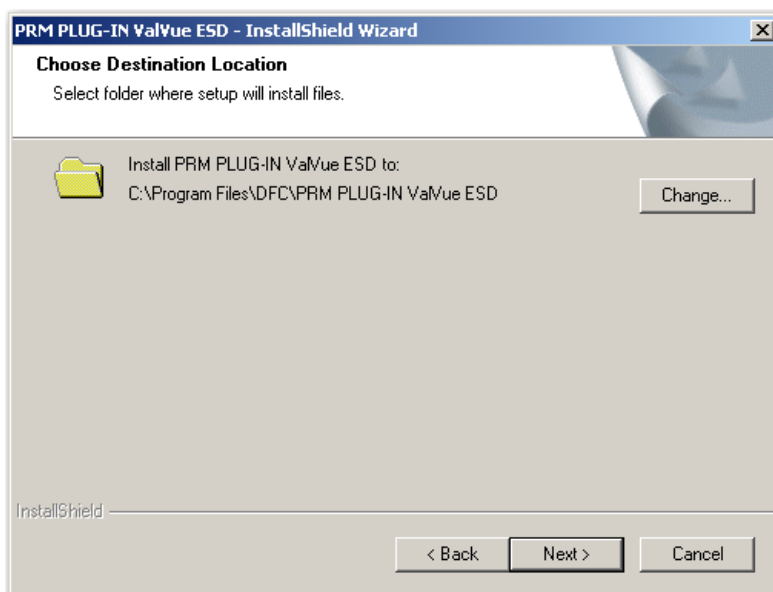

Figure 15 - PRM Plug-In Destination Folder
4. Click the accept radio button, click **Next** and the *Choose Destination Location* screen appears (*Figure 15*).